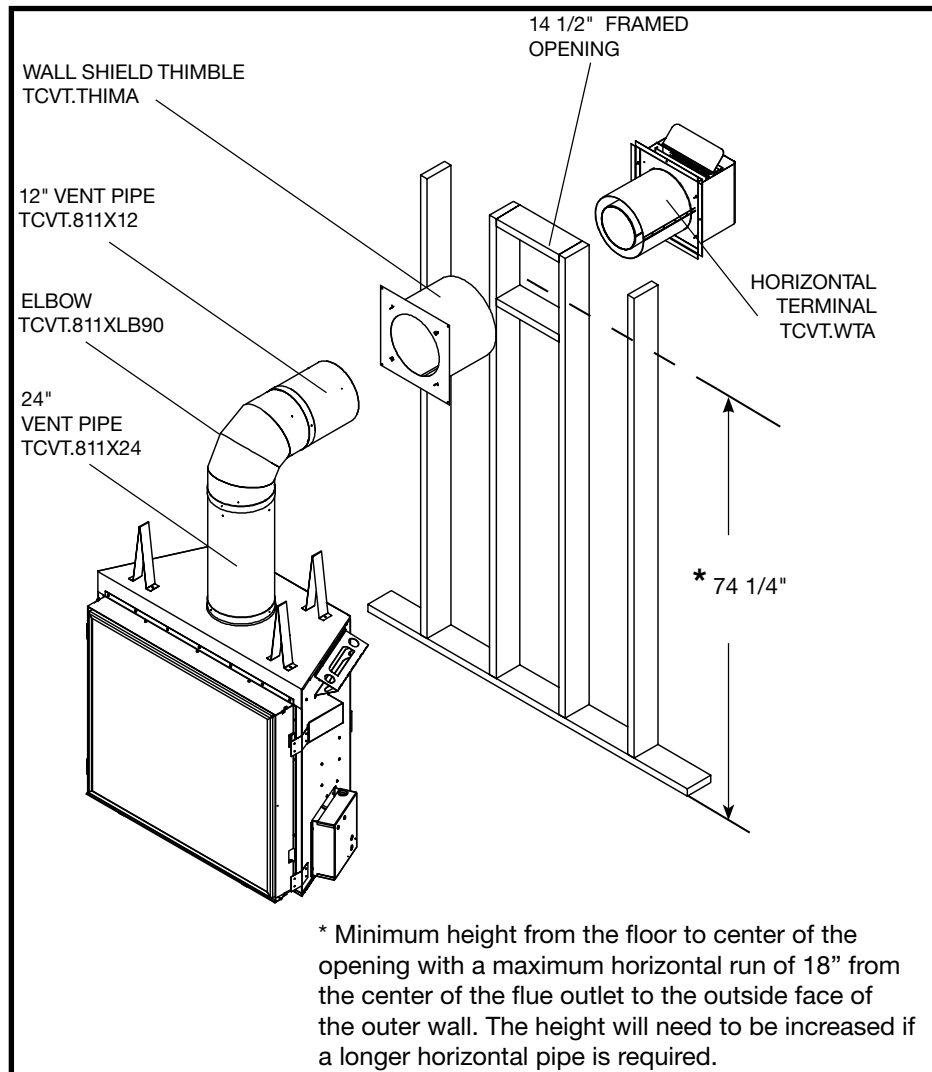

Figure 30: Wall vent terminal framing.
1. Having determined the position of the fireplace, cut and frame a 14 1/2 inch opening centred at a minimum height of 74 1/4 inches above the floor (Figure 30). The opening may be round or square. Height of the opening will vary with each installation. As the horizontal vent run increases, so does the minimum vertical rise. See Figure 31.